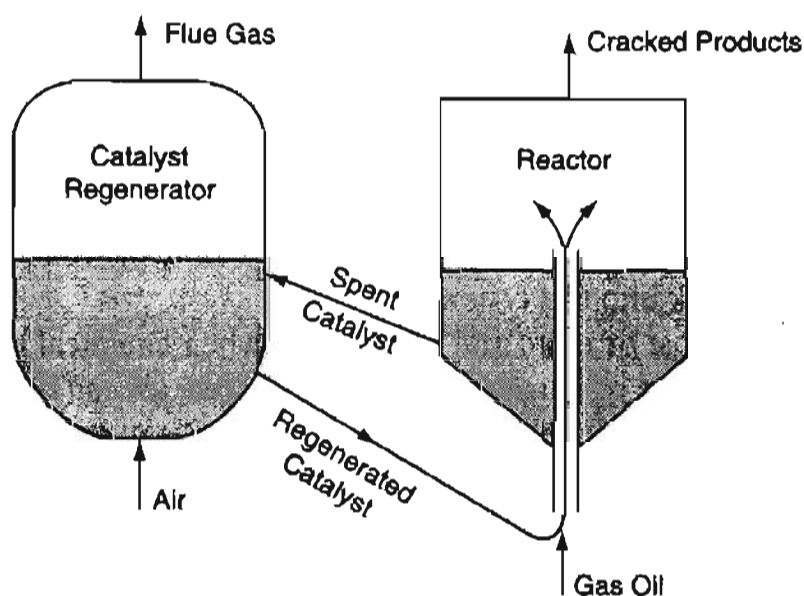

Figure 12.4 Diagram of a FCC process.
- 2. Continuous catalyst regeneration.** Catalysts are used to increase the rate of chemical reactions, but their effectiveness can diminish with use (catalyst deactivation). Processes that use catalysts that deactivate at a relatively fast rate may require the onsite regeneration and recycling of the catalyst. For example, in a fluidized catalytic cracking (FCC) process (Figure 12.4), the cracking catalyst deactivates almost immediately upon contact with the gas oil feed at the reaction temperature because of the formation of coke on the surface of the catalyst. Therefore, the deactivated (spent) catalyst is transported to the catalyst regenerator where most of the coke is burned off the surface of the catalyst to restore the activity of the catalyst.